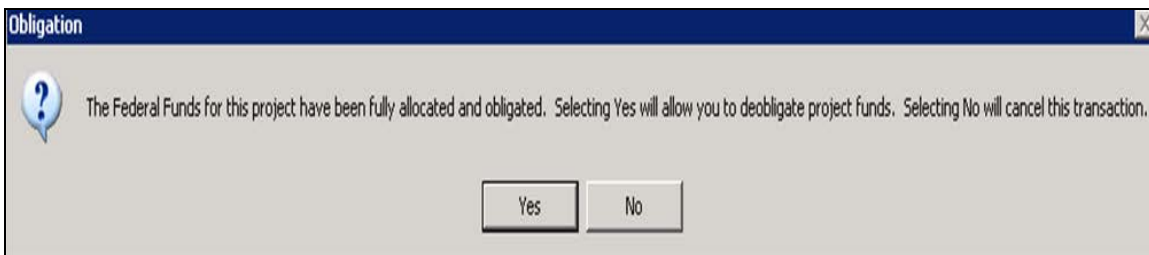

Figure 10-68: Deobligate Funds Dialog Box
- The Deobligate Funds dialog box is displayed (Figure 10-68). Click the YES button to continue.